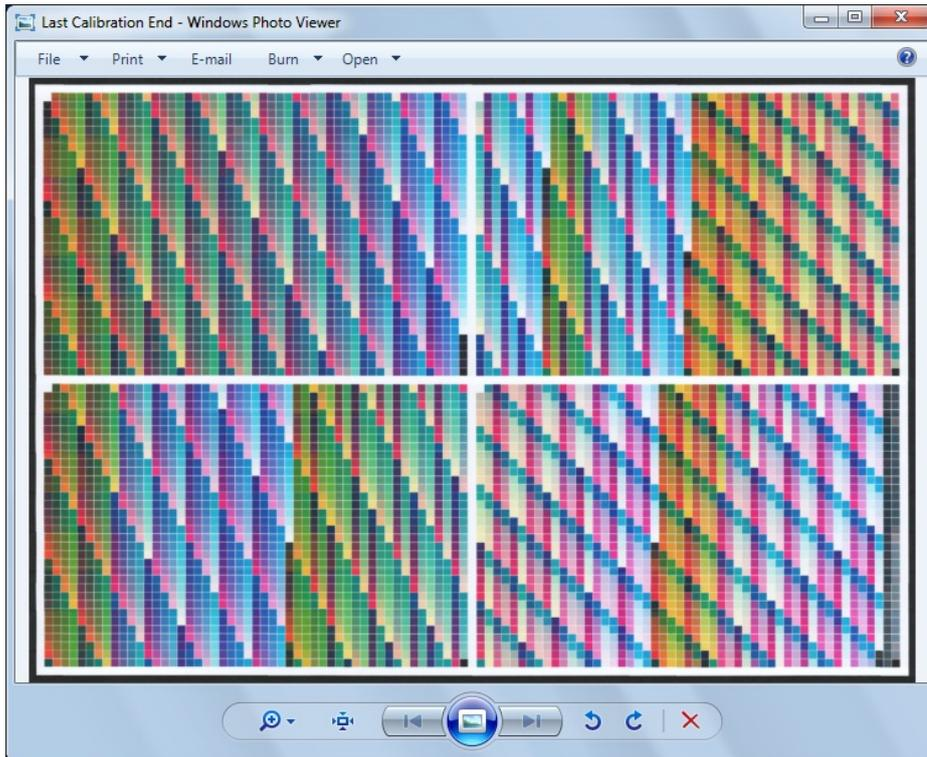

Fig 3-14
6. Check that the file views as shown in the example fig 3-14.